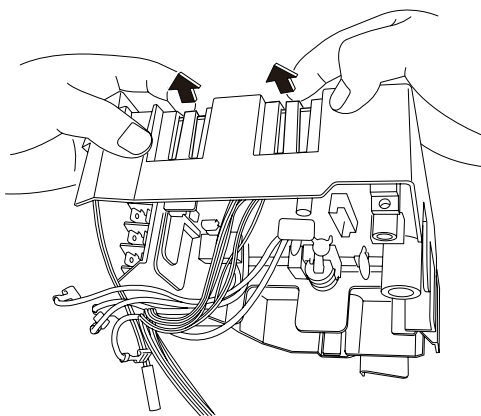

Fig. 32
- (8) To remove the control P.C.Board unfasten the 2 hooks at the upper part from the rear side. (Fig.32)